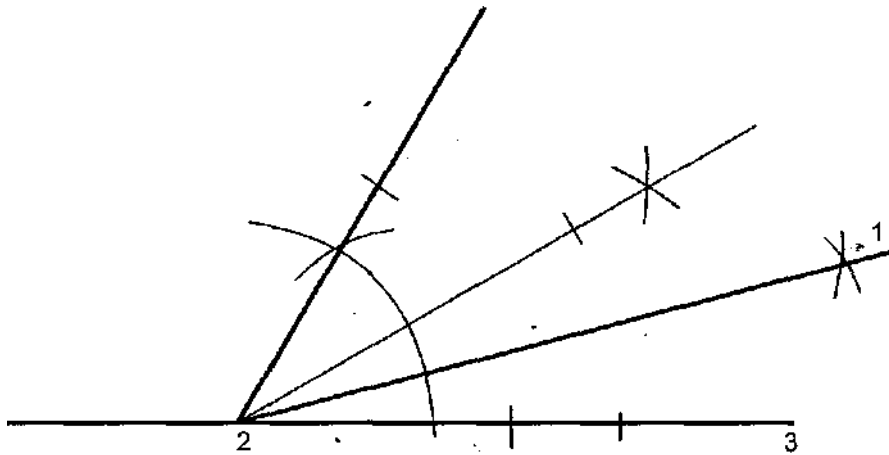

Fig. 4.3
**To construct an Angle of  $15^\circ$  (See Fig 4.3)**